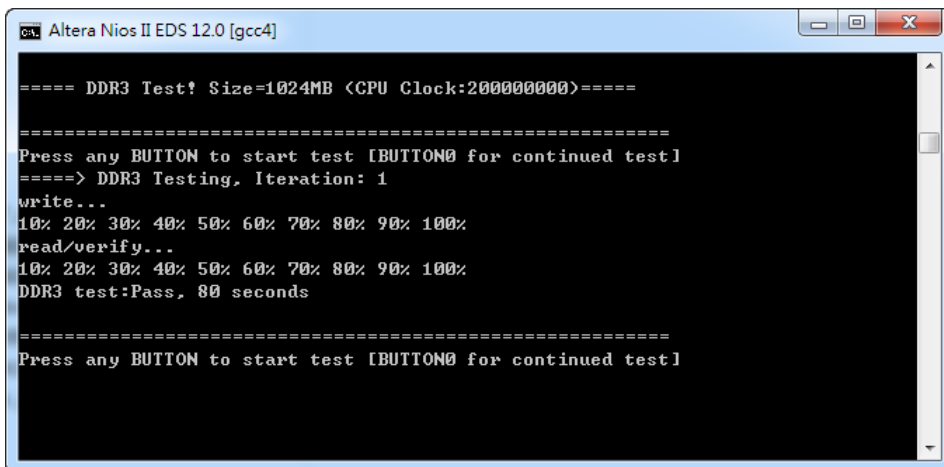

Figure 6-4 Display Progress and Result Information for the DDR3 Demonstration
- The program will display progressing and result information, as shown in 164H164H **Figure 6-4**.